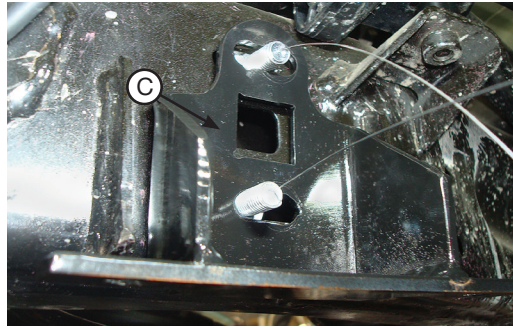

fig. D.11
- Once the carriage bolts are in position, insert the tools through the holes in the brace (C) (Fig. D.11) and push the brace up against the frame.